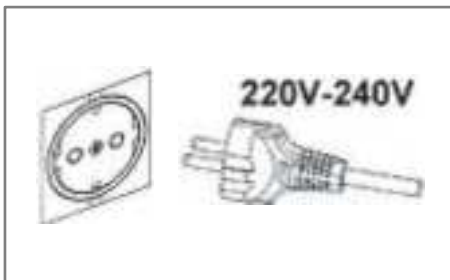

Figure 1
1. The voltage of your power supply must be consistent with that specified in the instructions (as fig. 1).